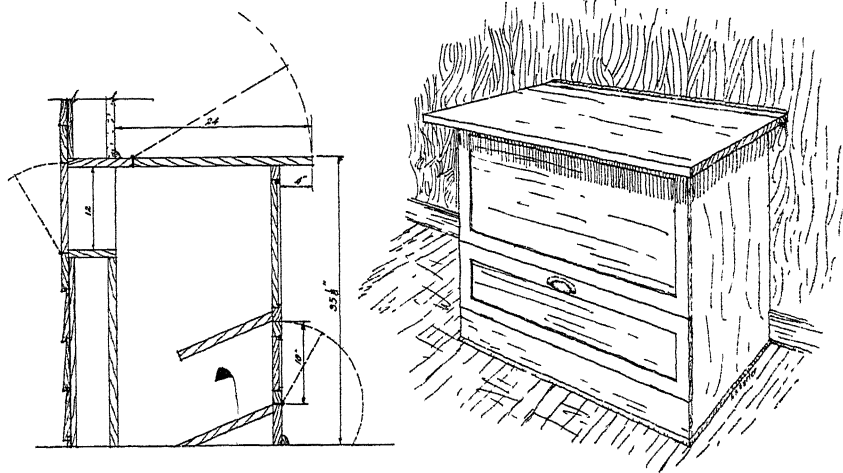

Fig. 11.—A fuel box in the kitchen affords the men or boys no excuse for not carrying in the wood or coal. This box is filled from the outside.
**Kitchen Stove.**—The kind of stove will depend upon the fuel supply. A gas stove would be the first choice where gas is available. Where a coal or wood stove is used, buckets or a box large enough to hold the day's fuel supply should be provided near the stove (see Fig. 11). An oil stove and fireless cooker will do away with much of the discomfort of working over a hot stove during the summer.